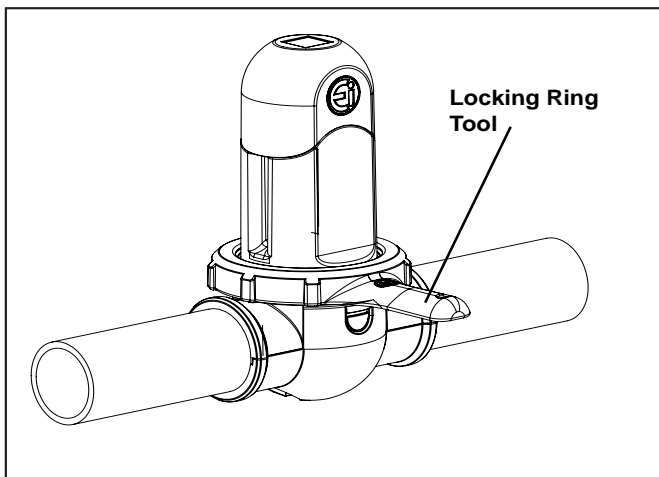

Figure 13. Locking Ring
14. Screw down the locking ring to the threaded clamp using the locking ring tool (see Figure 13).